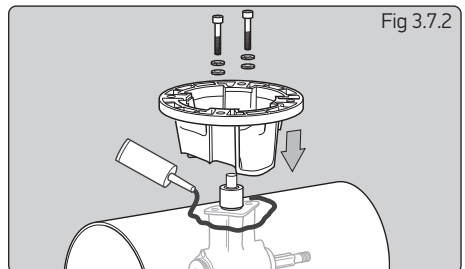

Fig 3.7.2
NOTE: Poor exterior tunnel surface could cause leakage and noise. Apply sealant to this area as required (Fig 3.7.2).
- ▶ Apply zinc chromate paste or marine grease to location bore and assemble saddle onto hub (SikaFlex® or similar may be used to seal saddle in place). Apply Blue Loctite® 243 to bolts and hand tighten along with supplied washers (Fig 3.7.2).